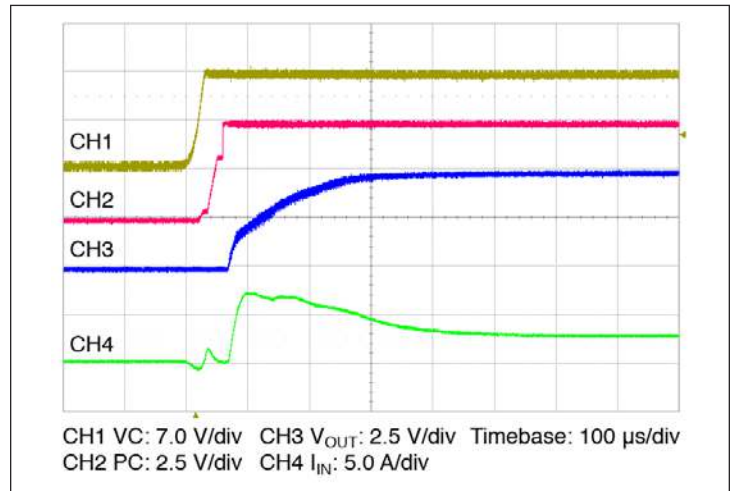

Figure 14 — Start up from application of VC;  $V_{IN}$  pre-applied  $C_{OUT} = 2000 \mu\text{F}$
- Stand Alone Operation (VC applied after VIN): In this case the module output will begin to rise upon the application of the VC voltage (See Figure 14). The Adaptive Soft Start circuit (See Section 10) may vary the output rate of rise in order to limit the inrush current to its maximum level. When starting into high capacitance, or a short, the output current will be limited for a maximum of 900 μsec. After this period, the adaptive soft start circuit will time out and the module may shut down. No restart will be attempted until VC is re-applied, or PC is toggled. The maximum output capacitance is limited to 2000 μF in this mode of operation to ensure a successful start.